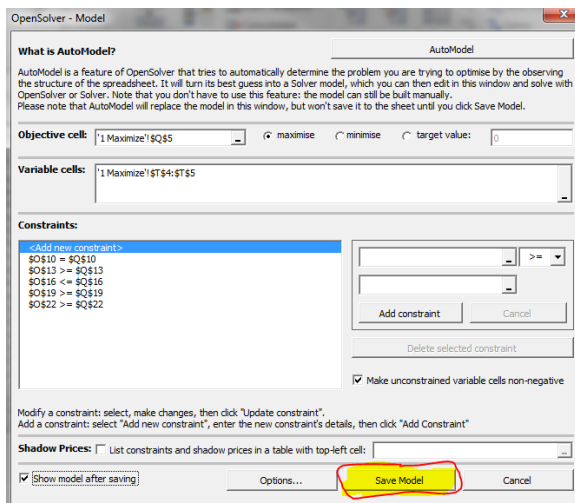
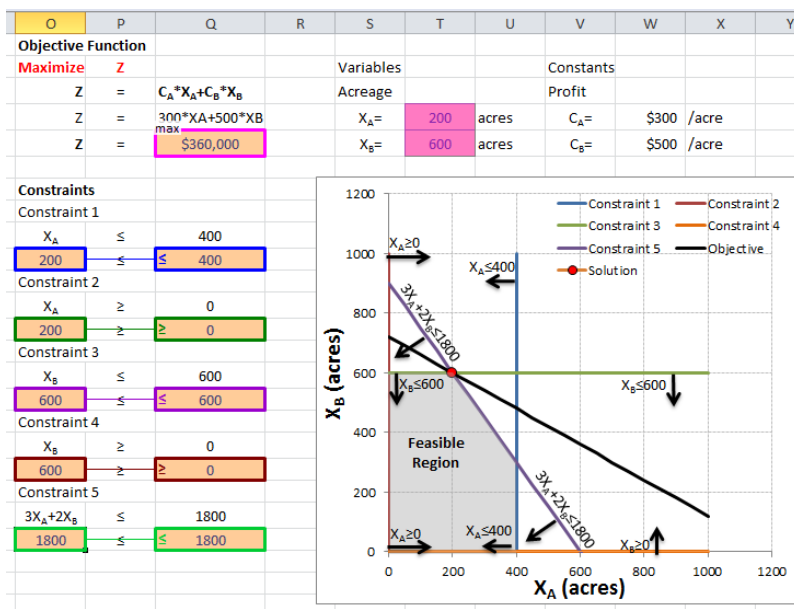

Figure 44
Figure 45
Click on “Save Model” (Figure 44). A Series of colorful rectangles should have appeared in your Spreadsheet (Figure 45). Notice that the Objective Function (cell Q5) has a “Max” label on top of it. Also, notice that the variables have a pink rectangle on top. In addition, for each constraint the right and left side of the equations/inequality are related with a line and a symbol (“≥”, “≤” or “=”), Double check that these symbols are correct.
- 2) A screenshot of the model, like Figure 45.
- 1) A screenshot of your linear model, such as Figure 44.
- 5) Turn in a screenshot of your linear model, similar to Figure 44.